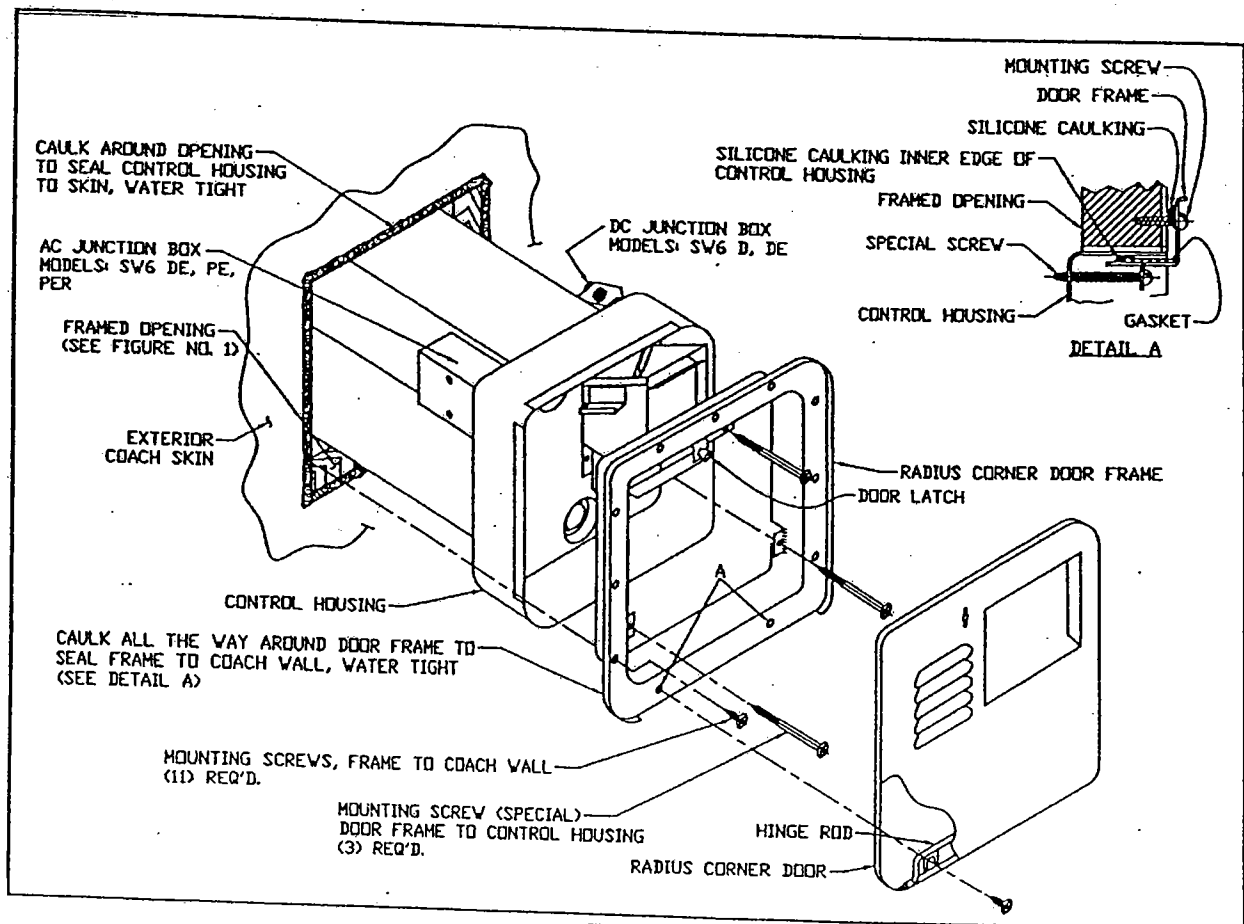

Figure 3
(See Figure 3 for illustration)
- F. Fit the door frame into control housing (over the caulking already applied) and pull frame tight to control housing using the three (3) No. 8-15 x 3 1/2" screws provided.
- G. Push water heater into framed opening until back side of door frame (now attached to control housing) is against the side of the coach and firmly attach with screws around the perimeter of the frame. **NOTE:** The two (2) holes in bottom of frame identified as "A" in Figure 3 are also used to mount door hinge to the frame.